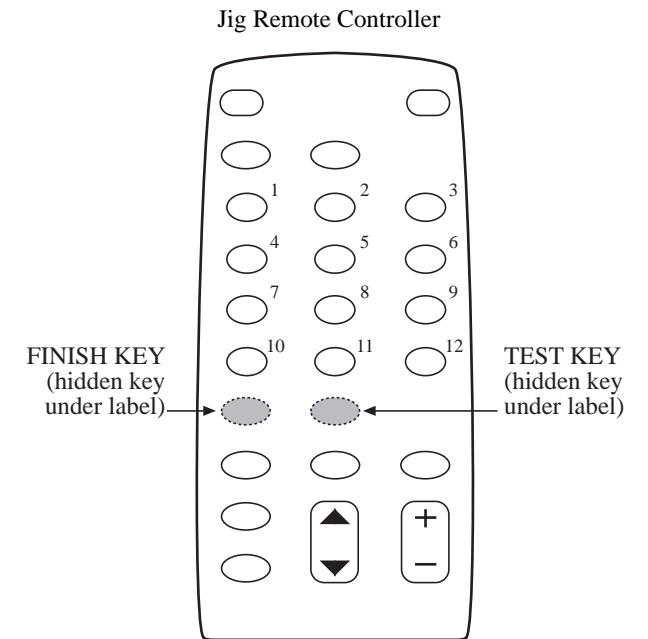

Fig. 1
5. With conditions as they are in step 4, press the "DISPLAY" key and then press the "FINISH key (hidden key)". (refer to Fig. 1)